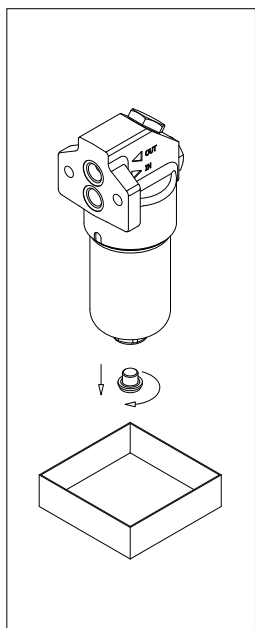

fig. 13
- (Fig. 13) If provided, unscrew the drain plug after placing a vessel to collect the operating fluid